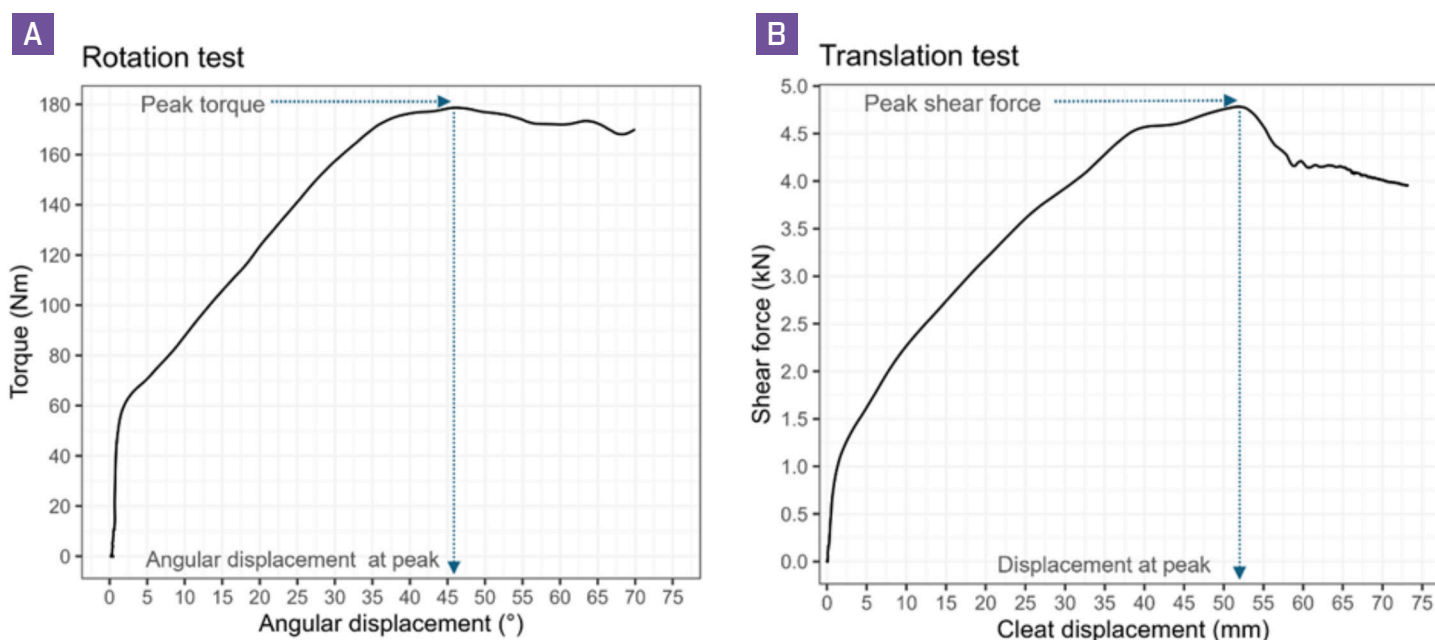

Figure 13. (a) Example BEAST data traces for rotation and (b) translation.
Important test metrics for load include peak shear force in newtons (N) and peak torque recorded in newton-meters (Nm). This is the highest load recorded during the course of a test. Displacement metrics for translation and torsion tests are recorded as linear displacement at peak load recorded in millimeters (mm) and angular displacement at peak torque recorded in degrees (°), respectively. (Figure 13).